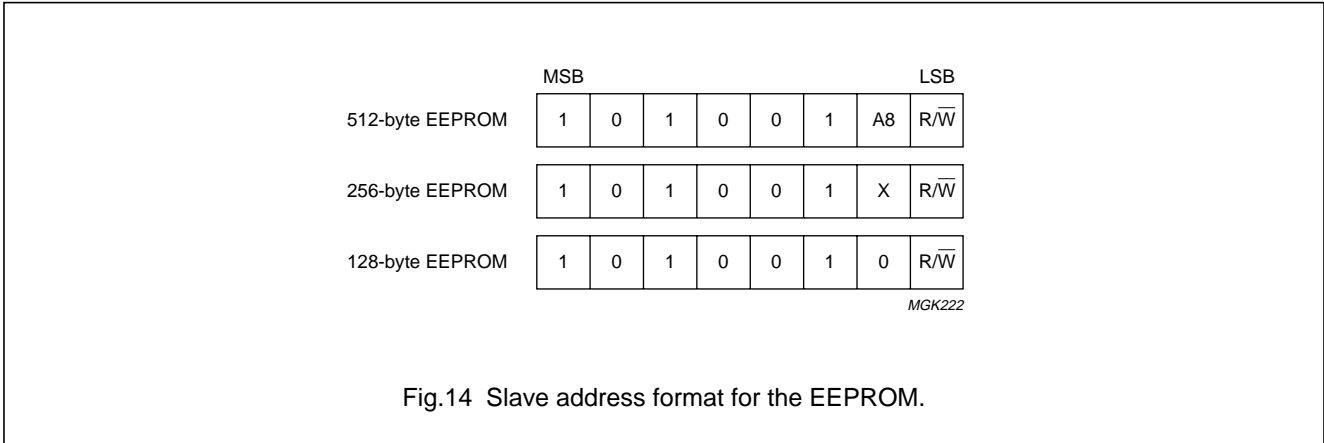

Fig.14 Slave address format for the EEPROM.
The EEPROM is accessed with an I2C Start (S) condition, followed by a 7-bit slave address and a control bit ( $R/\overline{W}$ ). Upon successful decoding of the address, the EEPROM answers with an I2C Acknowledge (A). Figure 14 shows the slave addresses for the different EEPROM sizes.